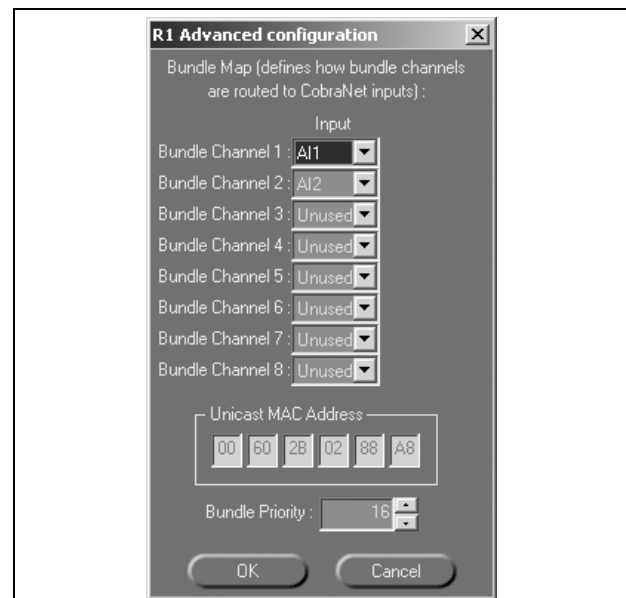

figure 13.11: Rx Advanced Configuration window
- 3 Double-click on the first bundle channel (Ch 1) with the left mouse button. CNConfig shows an Rx Advanced Configuration window (refer to figure 13.11). With the Rx Advanced Configuration window, you can change the audio inputs that are connected to the bundle channels.